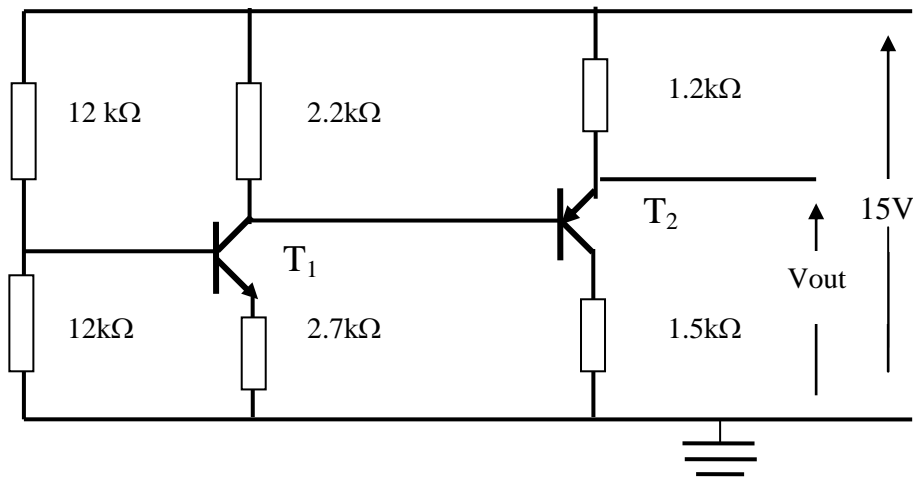

Fig Q3
3. Fig Q3 shows a two stage transistor amplifier using high gain transistors whose base currents are small enough to be neglected. The voltage between base and emitter for transistor T_1 is 0.4 V. and for transistor T_2 it is 0.6 V.